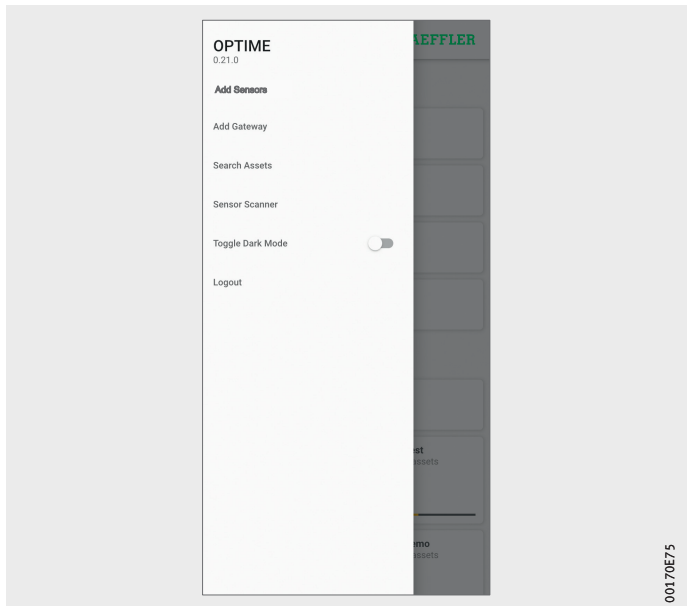

Figure 26
- ▶ To log out, go to the menu and tap the [**Logout**] button, *Figure 26*, page 36.